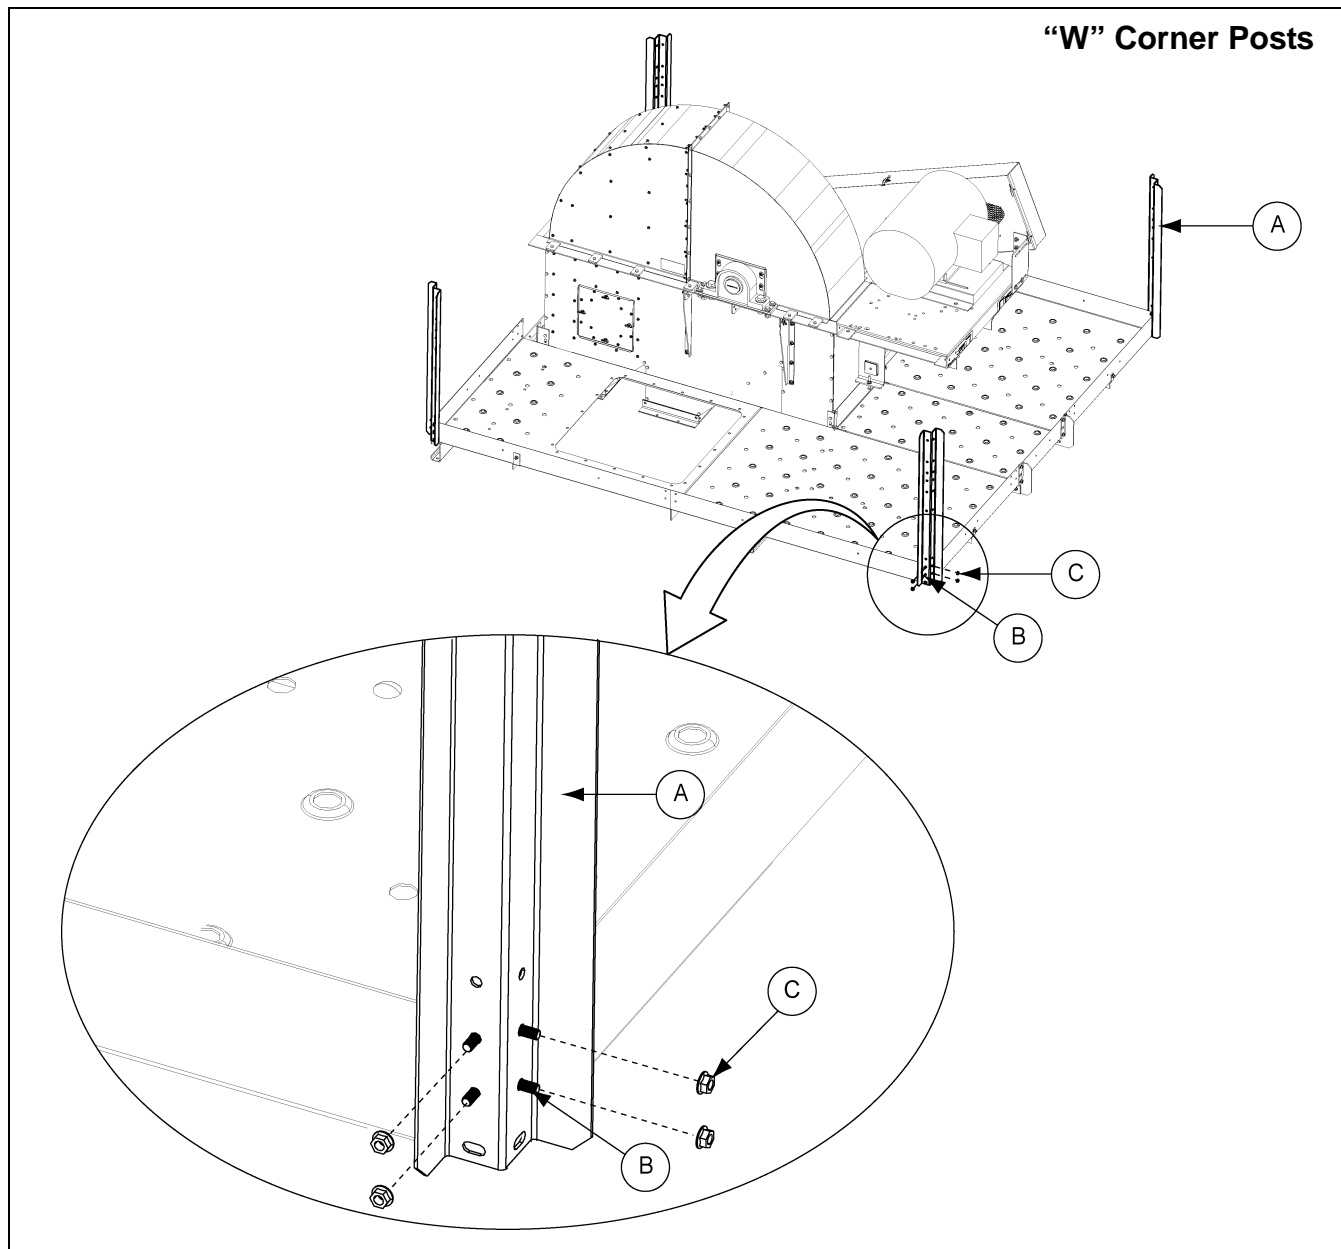

Figure 80
2. Attach each “W” corner post to decking using 5/16" x 3/4" flange bolts (S-6606) and 5/16" flange nuts (S-10268). Torque to standard specifications. *(See Figure 80.)*